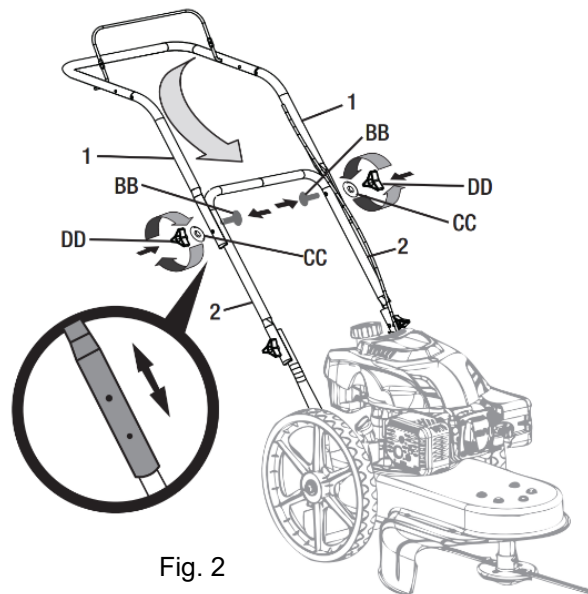

Fig. 2
2. Using M8 bolts (BB), washers (CC) and wing nuts (DD), secure the upper part of the handle (1), see Fig. 2.